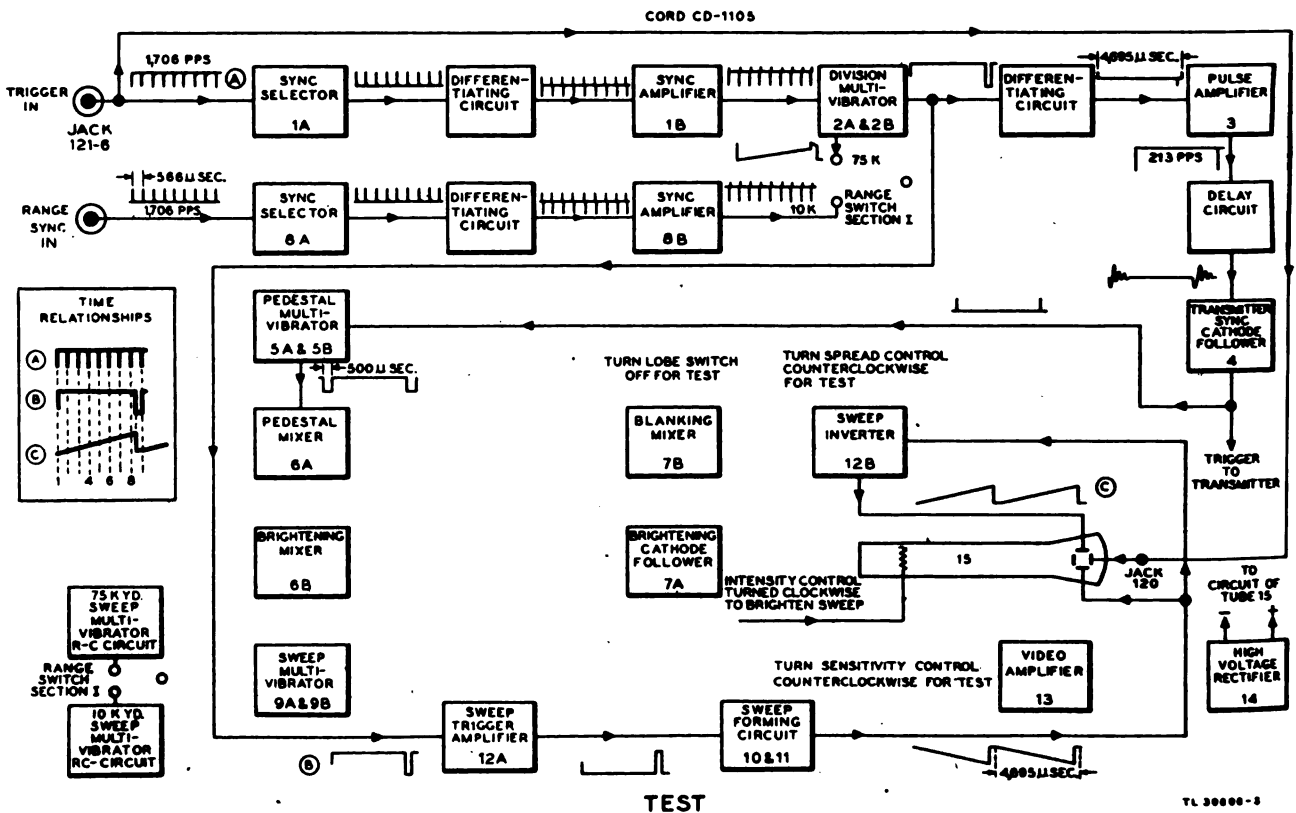

Figure 39. Control unit block diagram of TEST connections.
### 34. DIVISION ADJUSTMENT (figs. 39 and 40).
The range switch wiring is complex. It is therefore desirable to present an over-all picture (fig. 39) in block diagram form of the circuit relationships when the range switch is in the TEST position. This is the position used to adjust and test the division action.
a. To avoid complicating the display tube screen during TEST, the video output is removed from the screen by turning down the SENSITIVITY control. If a lobe-switching antenna is used, the lobe switch is turned off and the SPREAD control is turned down. The brightening pedestal duration is far too short for the long sweep used during TEST and would only complicate the appearance of the pattern on the screen. The pedestal mixer stages and brightening mixer stages are therefore disabled automatically by the range switch connections, and the INTENSITY control is turned up to eliminate the need for brightening pedestals. The sweep multivibrator stage receives no input and therefore produces no output. These conditions are shown by the absence of the corresponding signal lines in figure 39.
b. In all other switch positions the sweep multivibrator stage furnishes the sweep trigger amplifier stage with positive rectangular pulses; the duration of these pulses determines the duration of the sweeps. In the TEST position the positive rectangular pulses to the sweep trigger amplifier are furnished by the division multivibrator stage and are shown as waveform ③ in figure 39. Waveform ③ shows the duration of the saw-tooth sweep-forming
d. The division adjustment varies the length of the long horizontal line; this length is the duration of the rectangular pulse. When the adjustment is correct for a division ratio of 8:1, as shown in the TIME RELATIONSHIPS part of figure 39, the sweep duration, shown as the slanting line of waveform C, is long enough to include eight *trigger sync* pulses (waveform A).
f. By comparing figure 39 with figure 35, it will be seen that the division multivibrator output which produces the rectangular pulse feeds into a different impedance in the TEST position of the range switch than it does in either of the two operating positions (75 and 10 K YD.). In the TEST position the multivibrator feeds two circuits instead of one. Therefore the adjustment made in the TEST position does not hold for the operating positions. The method of correcting the adjustment to the impedance in the operating positions is explained in paragraph 101e.